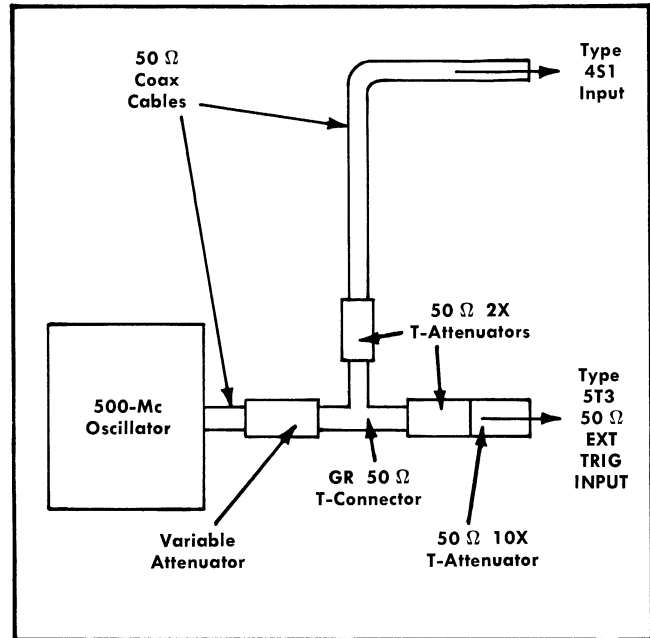

Fig. 5-39. Connections for 500 Mc high-frequency Auto Recovery triggering check.
- a. Connect a 500-Mc oscillator signal to the Type 5T3 50  $\Omega$  EXT TRIG INPUT and to the sampling unit vertical input as shown in Fig. 5-39.